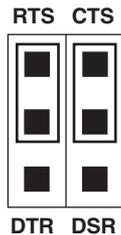

Figure C-2. The necessary “pass RTS/CTS” setting.
4. Set the flow-control jumpers in *both* the Local *and* the Remote Unit to the “RTS/CTS across link” setting (jumpers vertically linking the upper pairs of posts), as shown in Figure C-2. This will allow the Extender system to detect the mouse properly.